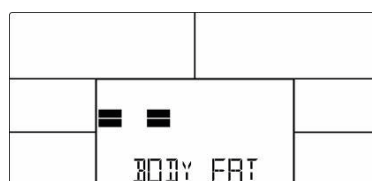

Fig. 25
- + ==: Not enough contact to the hand pulse sensors or to the chest strap (Fig. 25)